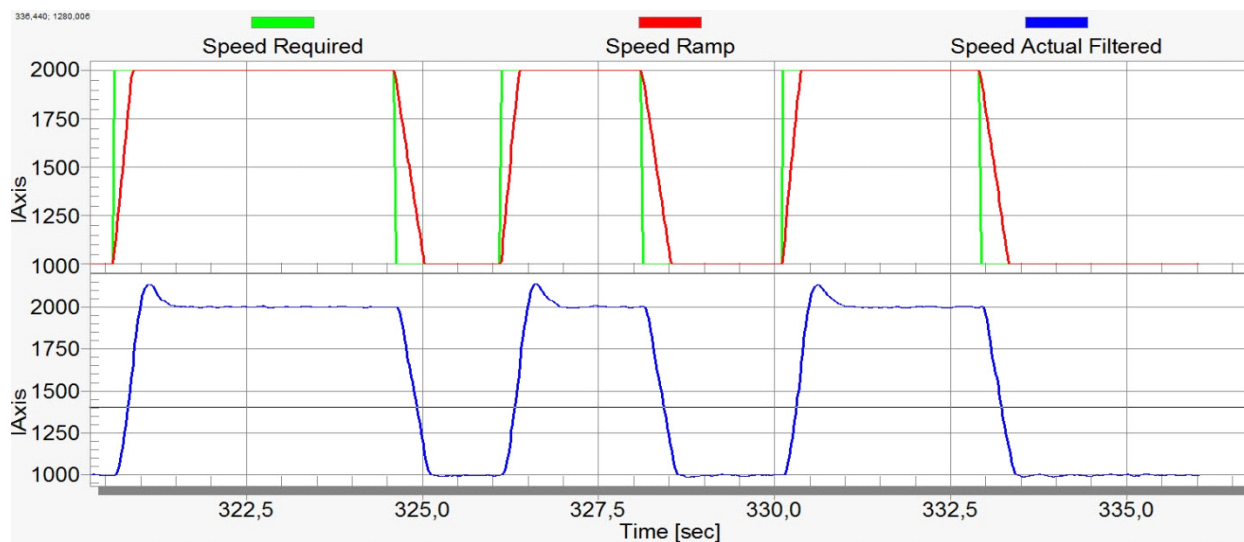

Figure 14. Speed Controller Response—Speed loop response with small overshoot
- Speed loop response is with a small overshoot, and the *Speed Actual Filtered* settling time is sufficient. Such a response can be considered as an optimal, see Figure 14.